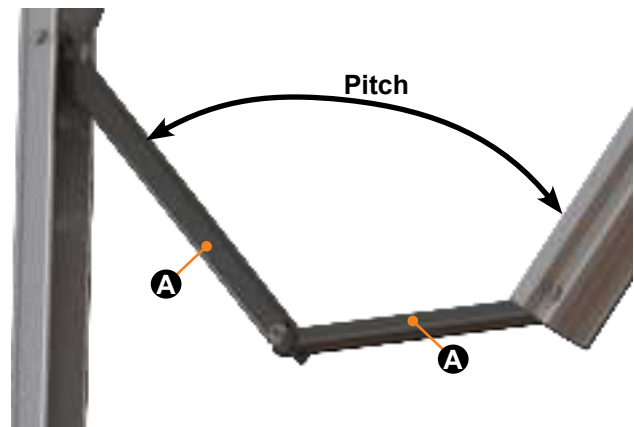

Fig. 18
3. Pull downward on the joint of the pitch arm until desired pitch is set (Fig. 18). A bolt, Belleville washers and nut (Fig. 19A) allow the joint to remain in the position set by the operator. If pitch arm does not hold position, see "Adjusting Pitch Arm Fasteners" in the Troubleshooting section of this manual.